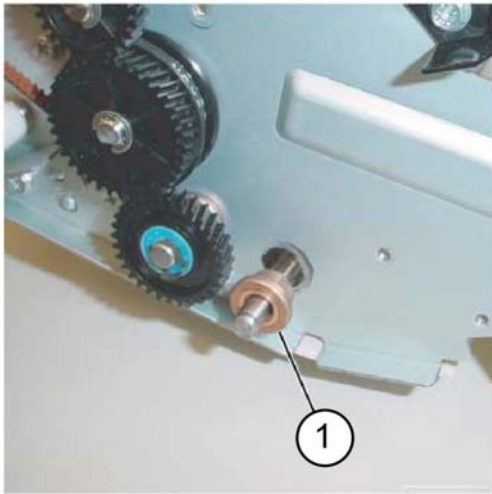

Figure 4 Rear bearing removal
6. Remove the rear bearing (1), Figure 4.